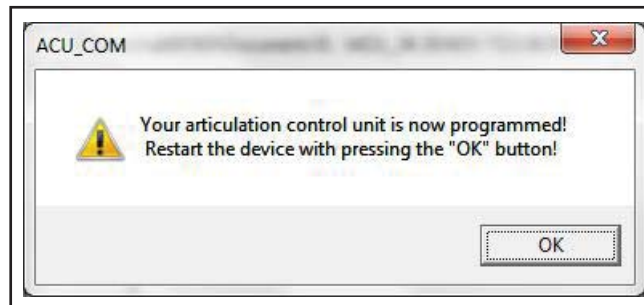

Figure 9 - Upload Completed and ACU Restart Window
1.13. When the upload is finished, a pop-up window will appear to confirm that the unit is now programmed and if you want to restart the ACU. See Figure 9. Click OK.